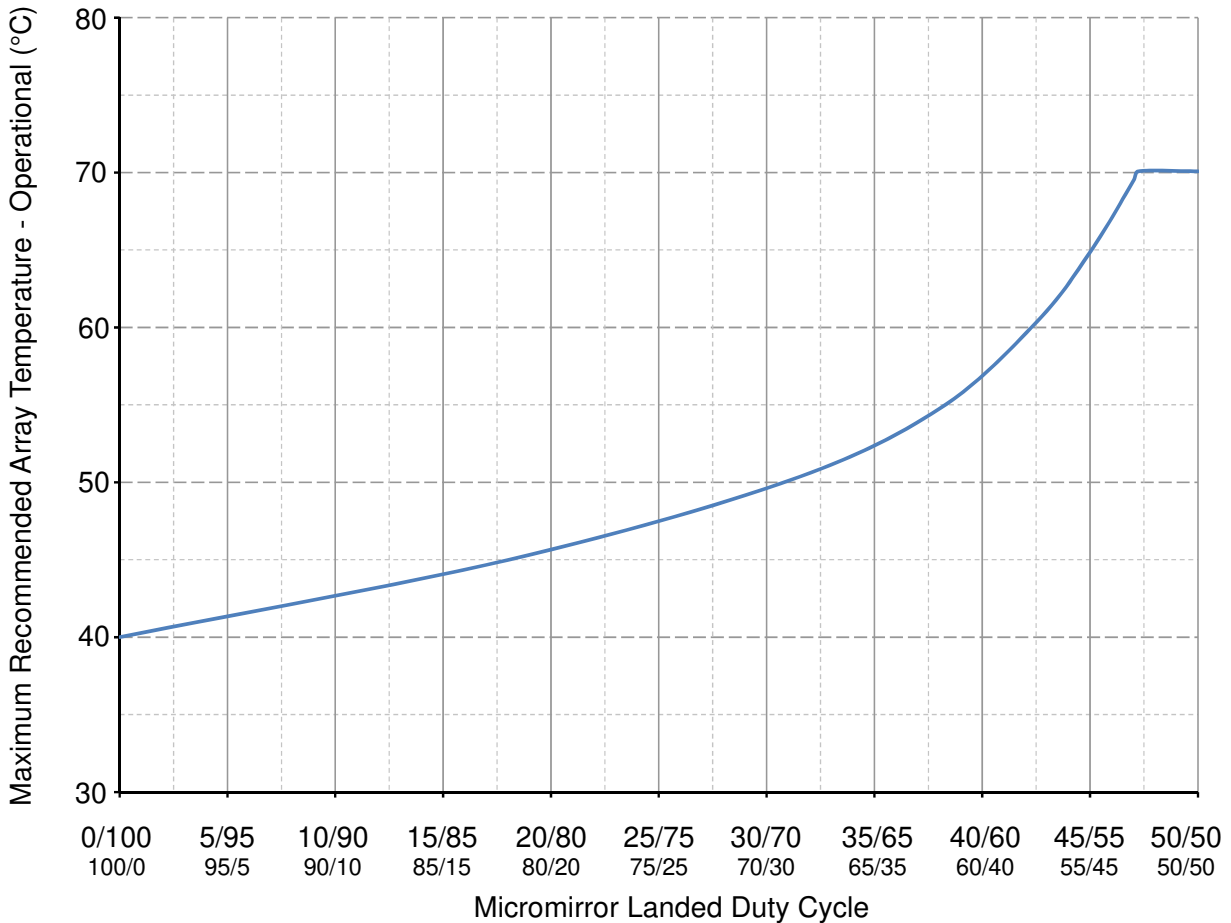

図 5-1. Maximum Recommended Array Temperature—Derating Curve
- Per 図 5-1, the maximum operational array temperature should be derated based on the micromirror landed duty cycle that the DMD experiences in the end application. See セクション 6.8 for a definition of micromirror landed duty cycle.